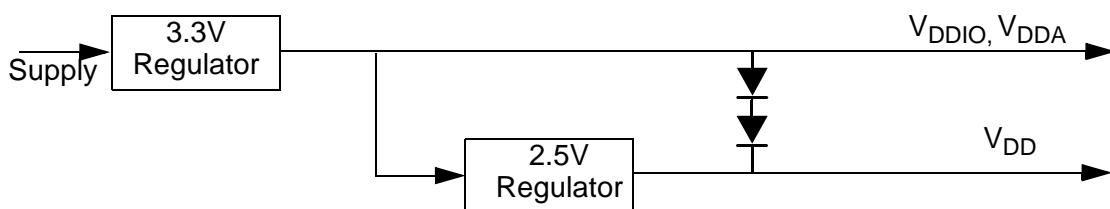

Figure 5. Example Circuit to Control Supply Sequencing
V_{DD} should not be allowed to rise early (1). This is usually avoided by running the regulator for the V_{DD} supply (2.5V) from the voltage generated by the 3.3V V_{DDIO} supply, see Figure 5. This keeps V_{DD} from rising faster than V_{DDIO} .
V_{DD} should not rise so late that a large voltage difference is allowed between the two supplies (2). Typically this situation is avoided by using external discrete diodes in series between supplies, as shown in Figure 5. The series diodes forward bias when the difference between V_{DDIO} and V_{DD} reaches approximately 1.4, causing V_{DD} to rise as V_{DDIO} ramps up. When the V_{DD} regulator begins proper operation, the difference between supplies will typically be 0.8V and conduction through the diode chain reduces to essentially leakage current. During supply sequencing, the following general relationship should be adhered to: